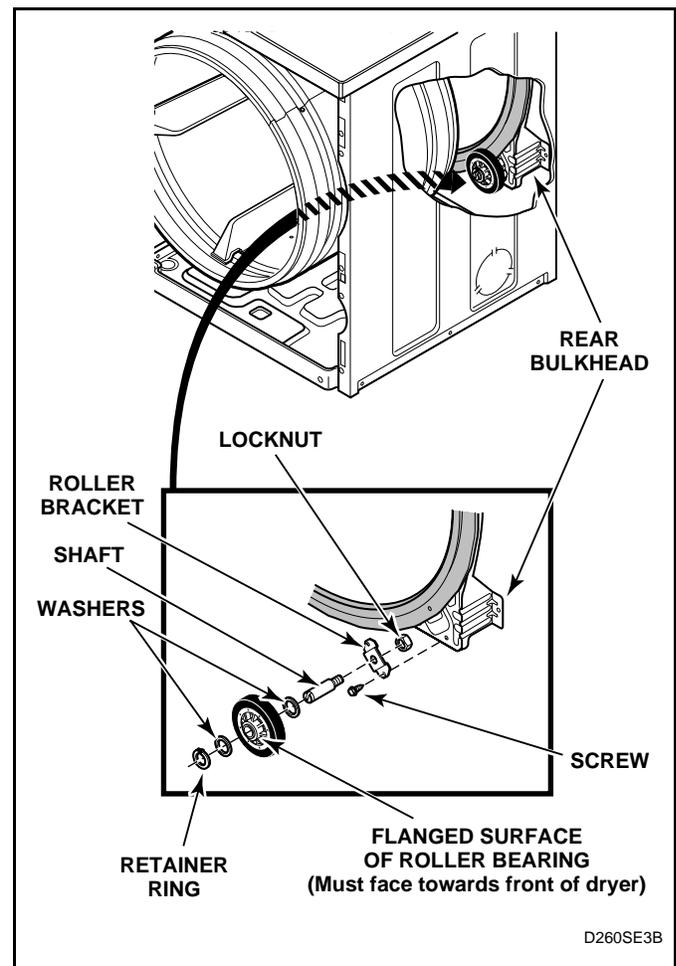

Figure 53
- Pull cylinder forward allowing rear of cylinder to drop down exposing rollers. See *Figure 53*.
- See *Figure 53* for removal of roller from bulkhead.